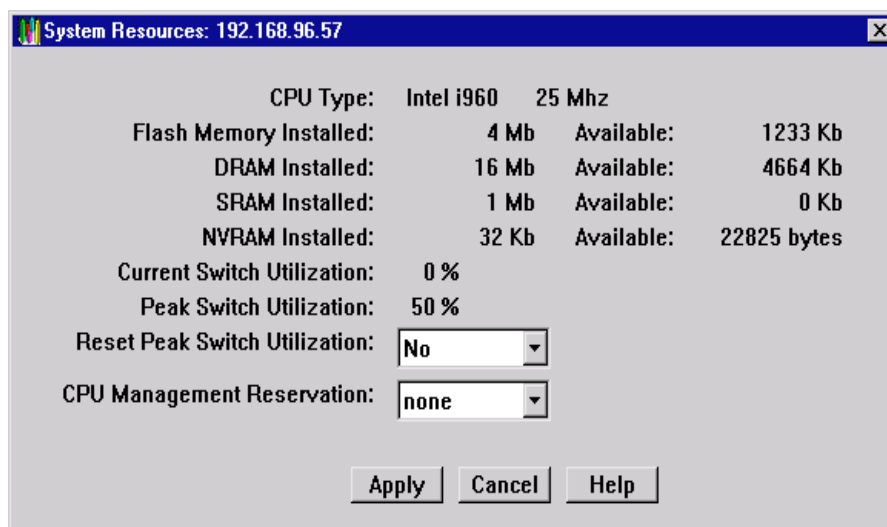

Figure 2-23. The System Resources Window
2. Select **System Resources**. The System Resources window, Figure 2-23, will appear.